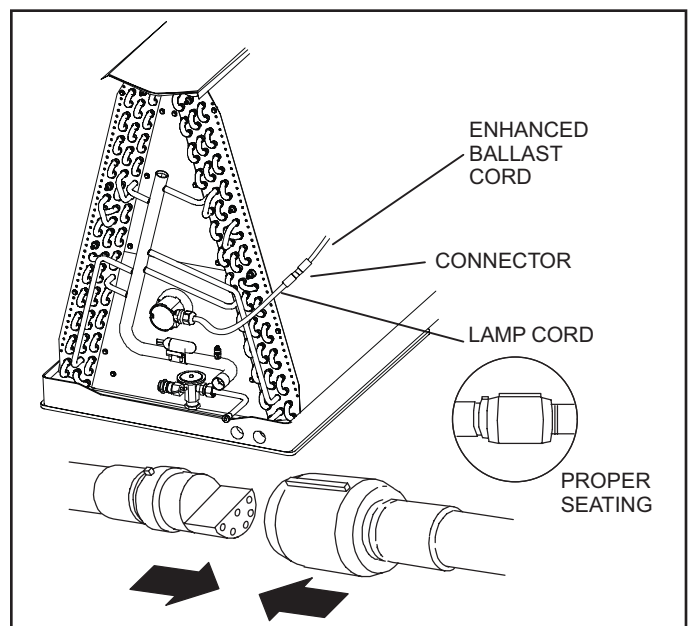

FIGURE 11. Connect Lamp Cord to Enhanced Ballast Cord (Connector)
- 7 - Connect the lamp holder cord's quick connect to the mating-enhanced ballast connector (see figure 11).